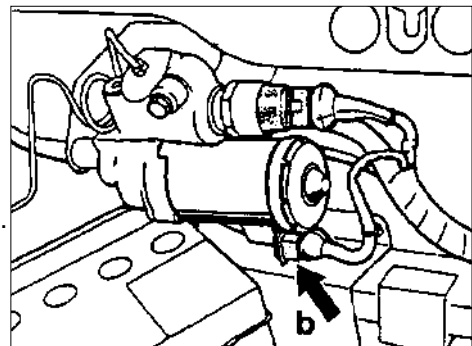

Figure 2
- Cover the vehicle battery and unplug the 2 pin plug on the hydraulic brake booster pump (Arrow b Figure 2).